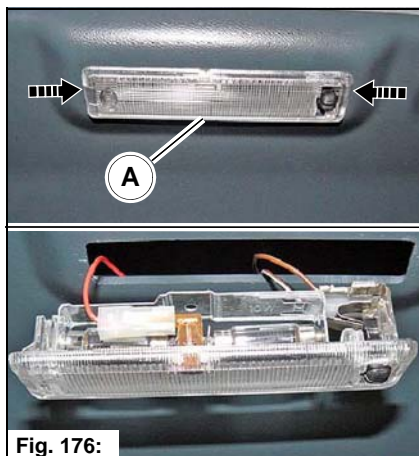

Fig. 176:
1. Use a screwdriver to carefully lever the interior light **Fig. 176-A** out of the roof panelling.